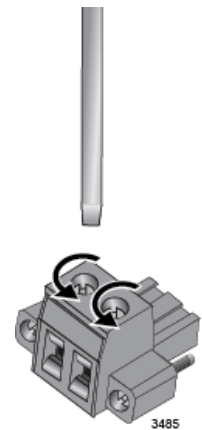

Figure 29. Loosening the Captive Screws on the DC Connector
3. Use a 3mm (0.125 in.) flat-head screwdriver to loosen the two captive screws on the top of the DC connector. Refer to Figure 29.